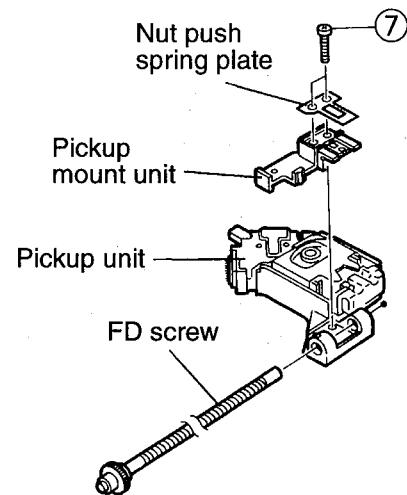

Fig.22
8. By removing the two screw ⑦ retaining the pickup unit, dismount the nut push spring plate and pickup mount unit (See Fig.22).
9. Remove the FD screw from the pickup unit (See Fig.22).